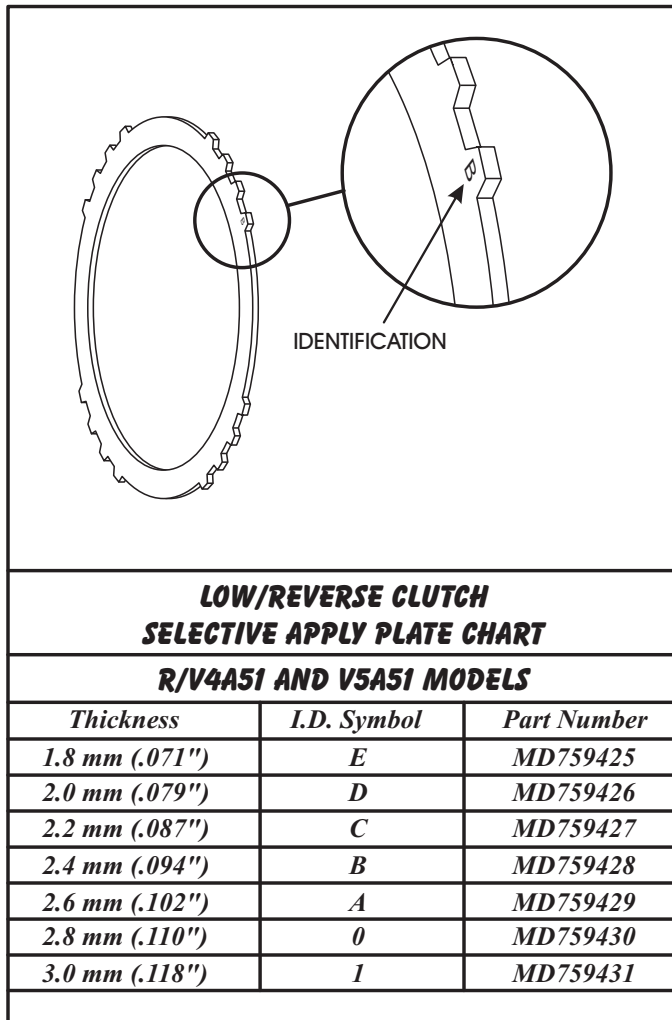

Figure 197
34. Change the selective apply plate as necessary to obtain specified clearance, using the chart in Figure 197.